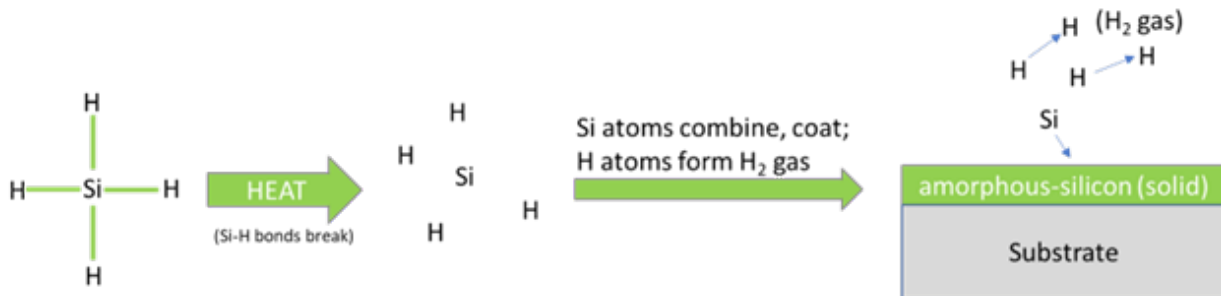
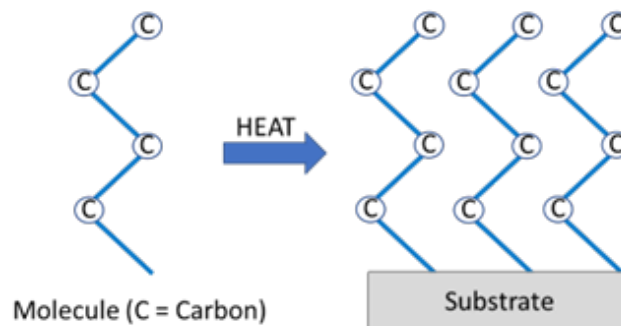
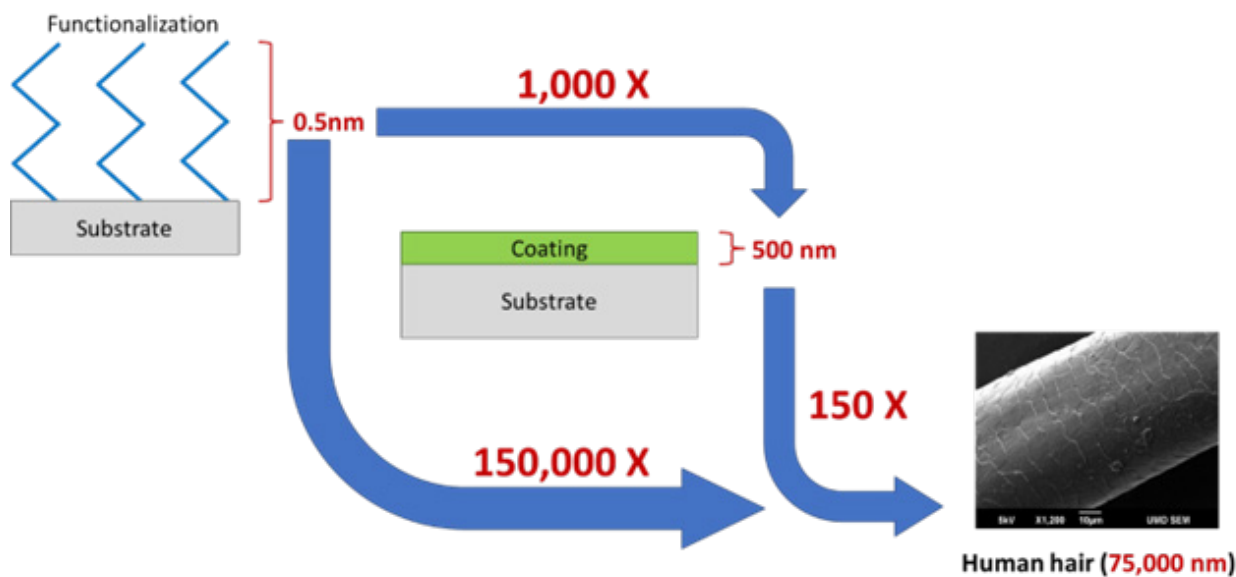

Figure 1. Illustration of silane (SiH_4) gas decomposition to form a silicon coating and hydrogen gas.
Figure 2. Surface bonding of a precursor to a substrate.
Figure 3. Thickness difference illustration of surface bonding, a CVD coating, and a human hair.
For SilcoNert 1000, silane gas (SiH_4) is brought into a chamber under vacuum at a high temperature. The bonds between silicon and hydrogen break. Hydrogen atoms (H) like to be bound to only one other atom, particularly another unbound hydrogen atom to form hydrogen gas (H_2). Silicon atoms (Si) also combine with each other, but they like to be bound to four other atoms. During this reorganization and bonding, the silicon atoms form a 3-dimensional matrix of bound silicon atoms that also bind to the surfaces of the substrates within the vessel (Figure 1). This process of bond-breaking and reforming in the gas phase to eventually form a solid surface coating is generally referred to as chemical vapor deposition, or CVD.
The Notak process is a bit different than the one described above. Instead of using heat to break all the silicon-hydrogen bonds of a precursor molecule (like silane), with Notak, heat is used to drive a reaction between a precursor molecule and the surface of a substrate. Heat energy forces the precursor to bond to the surface of the substrate without breaking the rest of the bonds throughout the precursor. Figure 2 illustrates this process using a carbon molecule (with 4 carbon atoms) as the example precursor molecule (for proprietary reasons, the Notak precursor will not be described here), and shows how the end of the precursor molecule bonds to the surface of the substrate.
As drawn in Figure 2, there seems to be a significant and potentially measurable thickness, but the drawings in Figures 1 and 2 are not to scale with each other. The length of the molecule bound to the substrate (Figure 2) is significantly less than the measured thickness of a CVD deposition (Figure 1). To illustrate this further, Figure 3 attempts to differentiate between the relative thicknesses of these two processes, and relate them to a tangible yet thin example, the human hair.
In Figure 3, a 4-carbon-length molecule attached to the surface of a substrate may be around 0.5nm long. As mentioned earlier, an amorphous silicon deposition from SilcoNert 1000 may be around 500nm thick. That coating is therefore 1,000 times as thick as a molecule bound to the surface (as would be with Notak). To further illustrate, a human hair is typically 75 microns thick (or 0.075mm), which is 150 times as thick as the CVD coating, or 150,000 times as thick as the molecule bound to the surface.